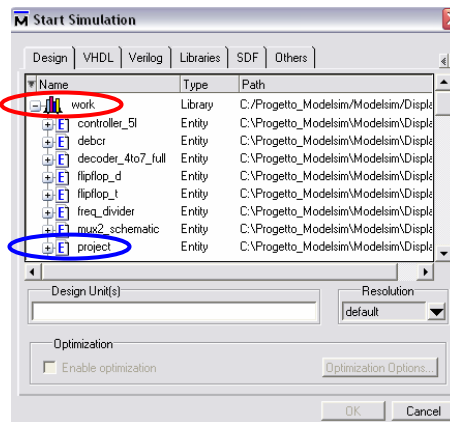

Figure 8: GUI-Starting simulation
- In the **Start Simulation dialog box** click on **work** (highlighted in red in figure 8) and select the top level entity (highlighted in blue in figure 8) and click ok.
- Return on the **Design** tab and click on the top level entity (highlighted in blue in figure 8) in the **work** library (highlighted in red in figure 8);